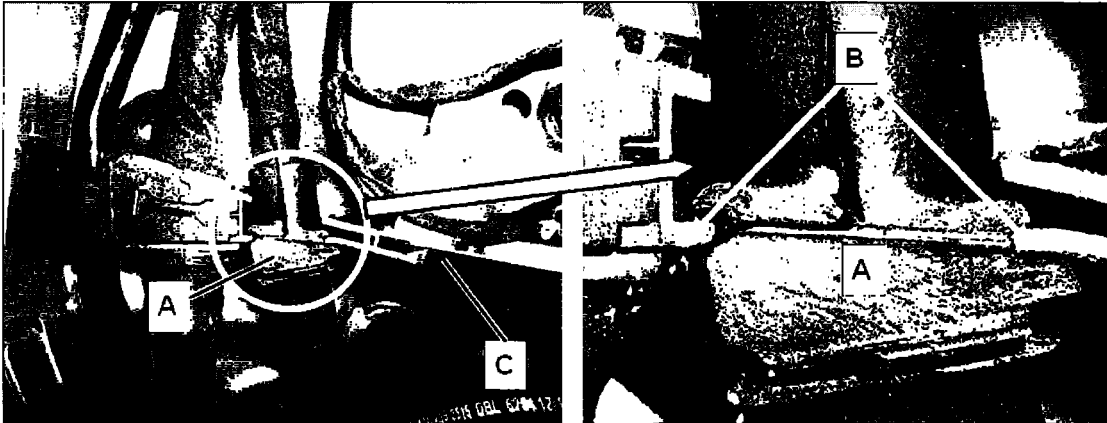

Figure 15
- Reposition wiring harness with grommet (A, Figure 15) into the forward wall opening (B) in the wire guide (C).